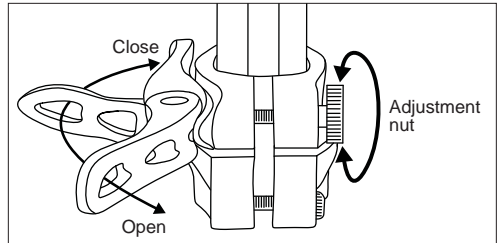

Fig. 29: Octagon® quick release adjustments your hand from pushing it closed.
4. Close the quick release lever. The tightness of the lever is adjusted by rotating the adjustment nut opposite the quick release lever. Turn the nut by hand to adjust the tension while holding the lever stable (Fig. 29).